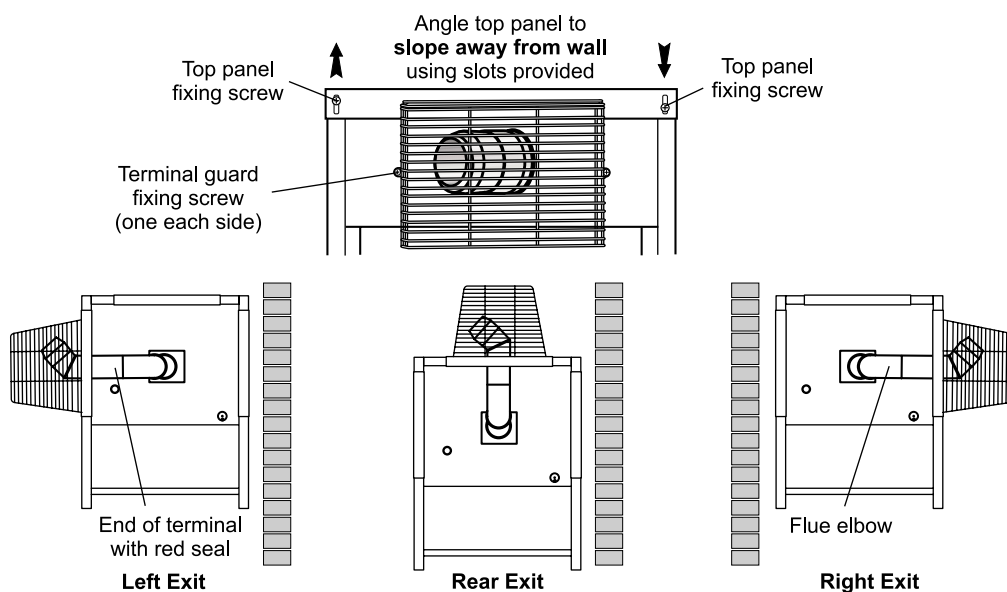

Fig. 4
- 9 The top panel of the casing has been designed so that it may be fitted to create a slight slope away from the side positioned against the wall. To tilt the top panel, loosen the four top panel casing screws, one at each corner and push down on the side furthest from the wall. Tighten the screws. See Fig. 4.